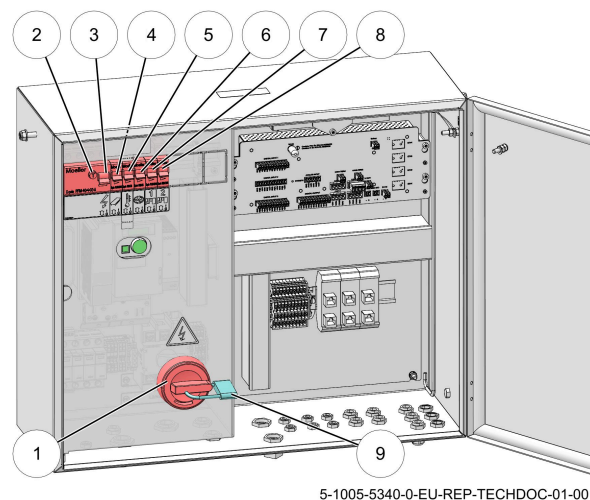

Figure 12. Main power supply switch CU
9. Set the circuit breakers in the OFF position, one by one from right (8) to left (3) (see figure 12 on page 3-8).
10. Set the main power supply switch (1) in the OFF position.
11. Install a padlock (9) on the main power supply switch (1) of the central control box.